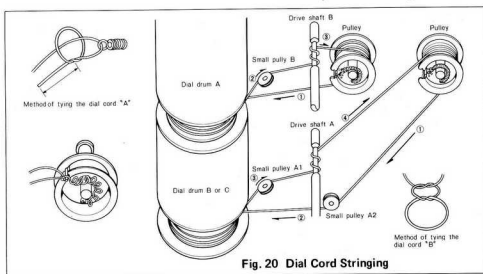

Fig. 20 Dial Cord Stringing
For replacement of the dial cord, refer to Fig. 20.
3. Wind the longer end of the dial cord a half turn in the clockwise direction around the pulley. Then wind the cord 2 turns around the dial drum and as many turns around the pulley according to the numerical order (see Fig. 20). Tie the shorter end of the dial cord to the other end. (see illustration "B").